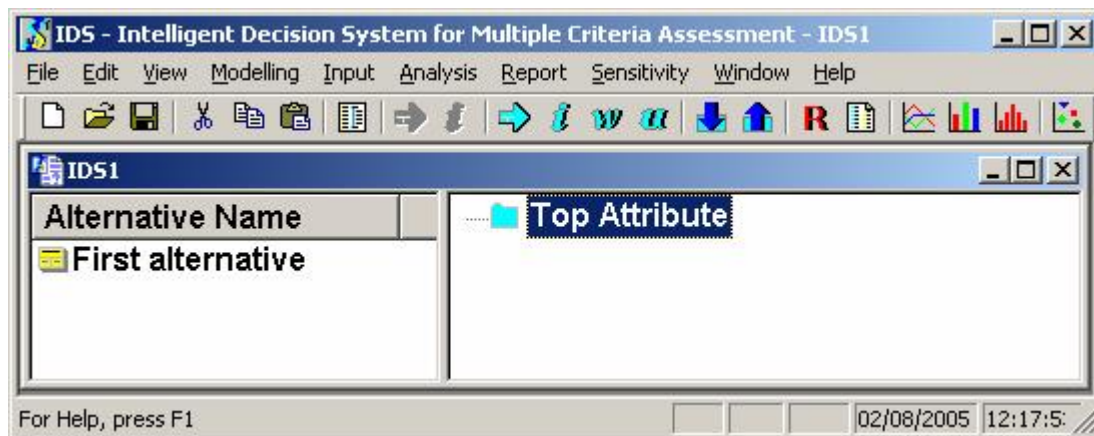
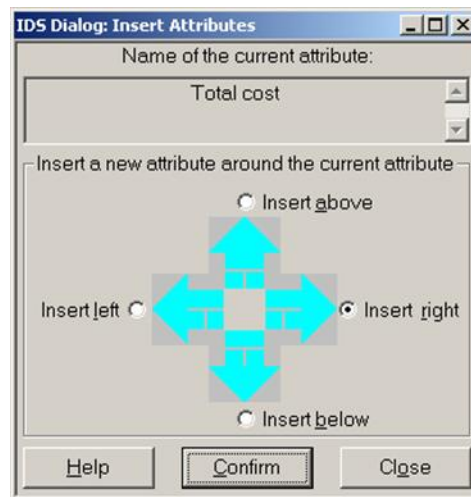
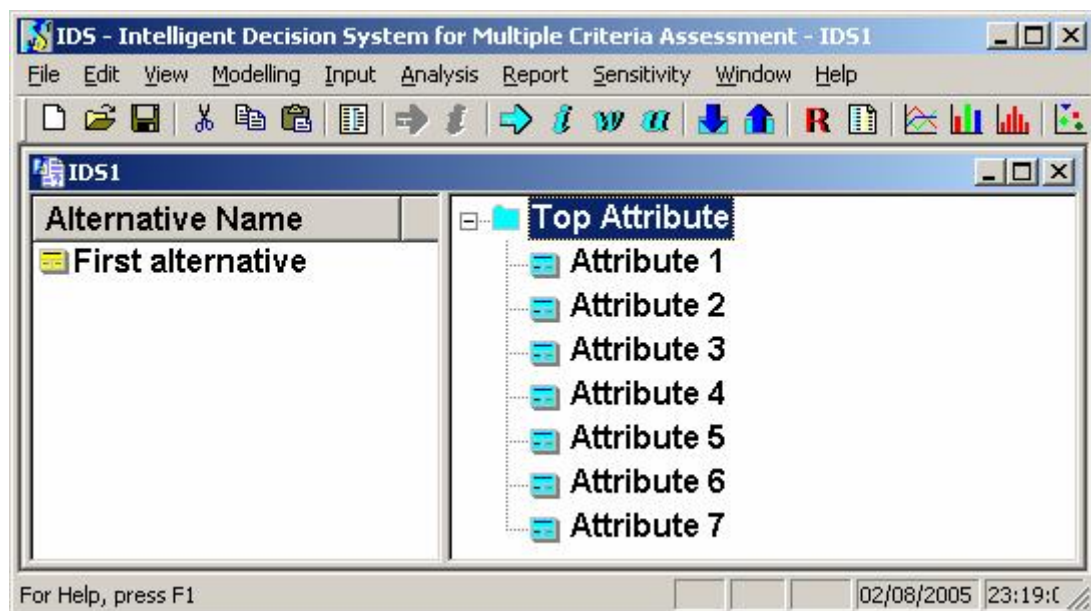

Figure 2.2 A New IDS Model Window
Figure 2.3 IDS Dialog: Insert Attributes
Figure 2.4 Attribute Hierarchy Skeleton
By doing so, a window similar to **Figure 2.2** will open. There is only one alternative and one attribute initially. Note that in IDS all alternative boxes are marked yellow and all attribute boxes are marked blue.
Left click the mouse (we simply use “click” in the manual to represent a left click) once anywhere on the top attribute, named Top Attribute by default, and then click the blue arrow  on the Toolbar of IDS (**Figure 2.2**) to invoke the IDS *Insert Attributes* dialog window (**Figure 2.3**). From the window, select the *Insert right* radio button and then click the *Confirm* button once. Then select the *Insert below* radio button and click the *Confirm* button 6 times. Now you should have an attribute hierarchy with one top attribute and seven 2nd level attributes (**Figure 2.4**).
Bottom level and higher level attributes are defined differently. To define a higher level attributes, such as the top one, select the attribute by clicking on the attribute box once (**Figure 2.4**) and then right click on the same box or click the  icon (see
- Select the attribute you wish to define by clicking on the attribute box, *Attribute 1* (**Figure 2.4**)
- Right click on the box or click the  icon on the Toolbar (**Figure 2.4**) to open the *IDS Dialog: Define An Attribute* window